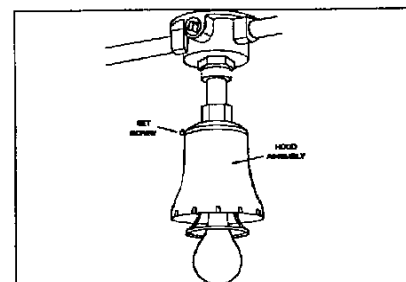

Figure 2.
6. Install hood assembly on pendant assembly (Fig. 2).